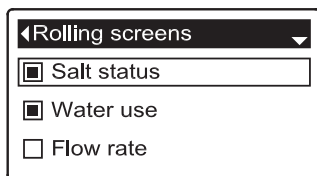

FIG. 106
5. Press the SELECT (O) button to display the Rolling screens menu (See Figure 106).